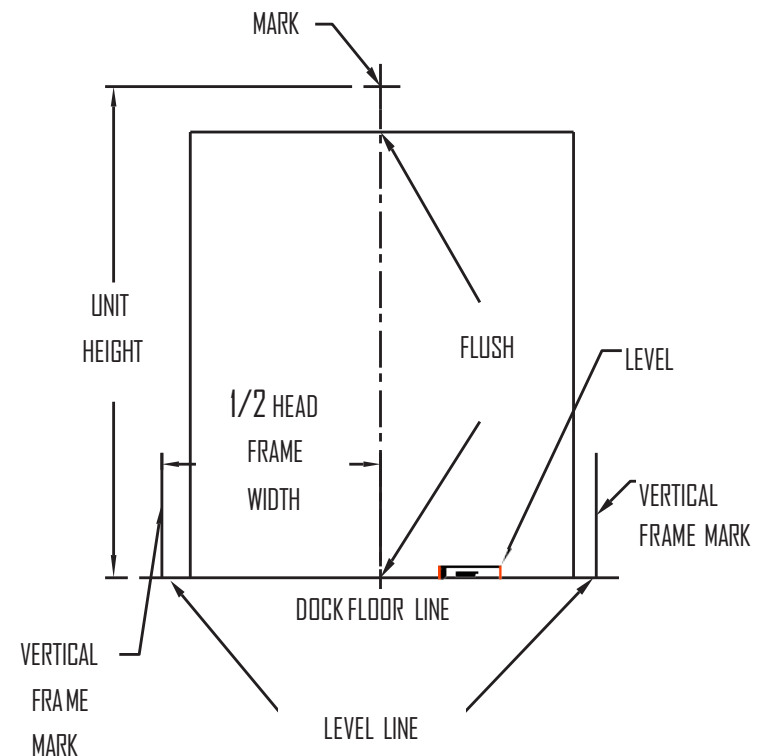

FIG 1
- Take 1/2 the head curtain width and mark this distance on both sides of door's centerline (Fig. 1).